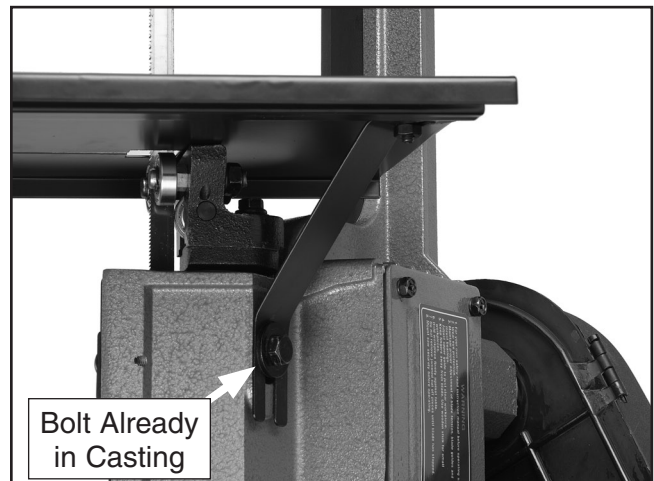

Figure 21. Table and bracket installed.
3. Install the bracket shown in **Figure 21** with the bolt already in the casting and the flat head screw, and the hex nut.